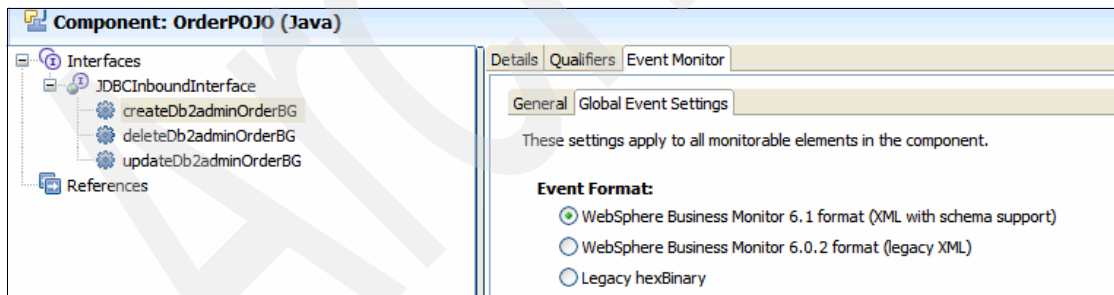

Figure 6-41 Global Event Settings
3. Click the **Global Event Settings** tab (Figure 6-41). The default event format is the WebSphere Business Monitor v6.1 format.